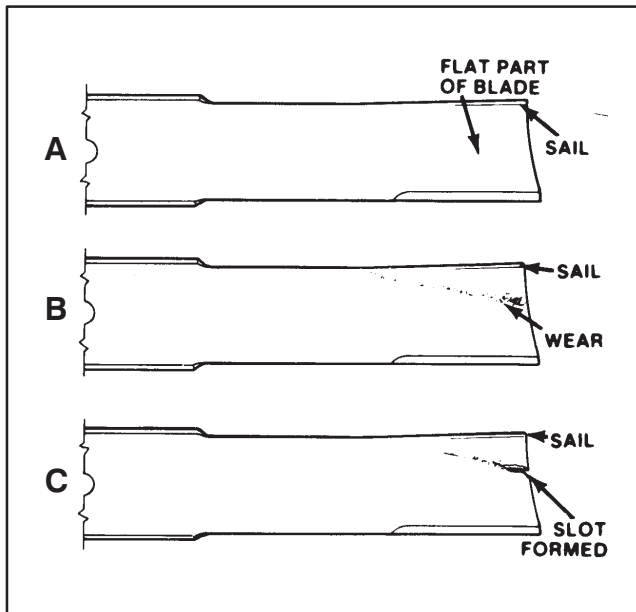

Figure 30
CHECKING SAIL AND SHARPENING CUTTER BLADE (Fig. 30–31)
2. Examine cutting ends of the blade carefully, especially where the flat and curved parts of the blade meet (Fig. 30–A). Since sand and abrasive material can wear away the metal that connects the flat and curved parts of the blade, check the blade before using the mower. If wear is noticed (Fig. 30–B), replace the blade.